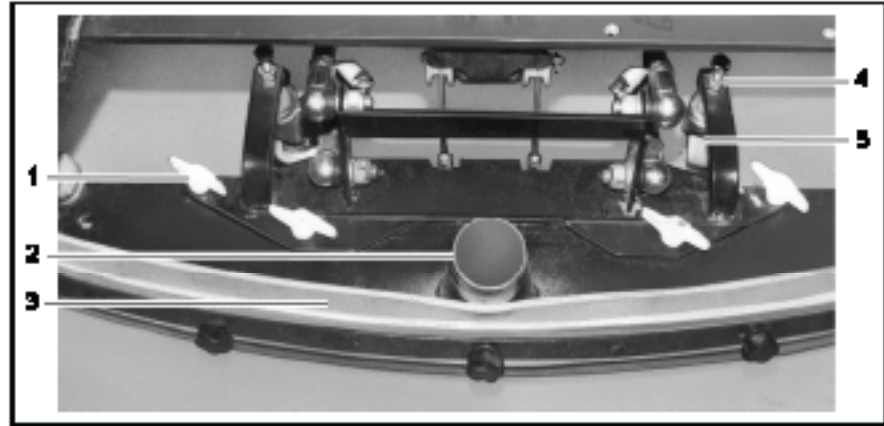

Fig 9
5. Slide the squeegee from the rear under the lowered holding attachment and fix the squeegee to it with the four wing nuts (Fig. 9/1).
6. Attach the suction hose to the connection nozzle (Fig. 9/2) of the squeegee.
The squeegee must be set up on a level floor according to the conditions in which it is to be used. The squeegee must stand vertically on the floor (adjusted at the factory). The sealing strip (Fig. 9/3) should bend slightly to the rear when the vehicle is in operation. Supporting rollers (Fig. 9/5) limit its movement toward the floor. To increase the squeegee contact pressure, the supporting rollers must be adjusted:
- Loosen the counter-nuts (Fig. 9/4) and raise the supporting rollers on the left and right evenly (turn screw counter-clockwise and lock again).